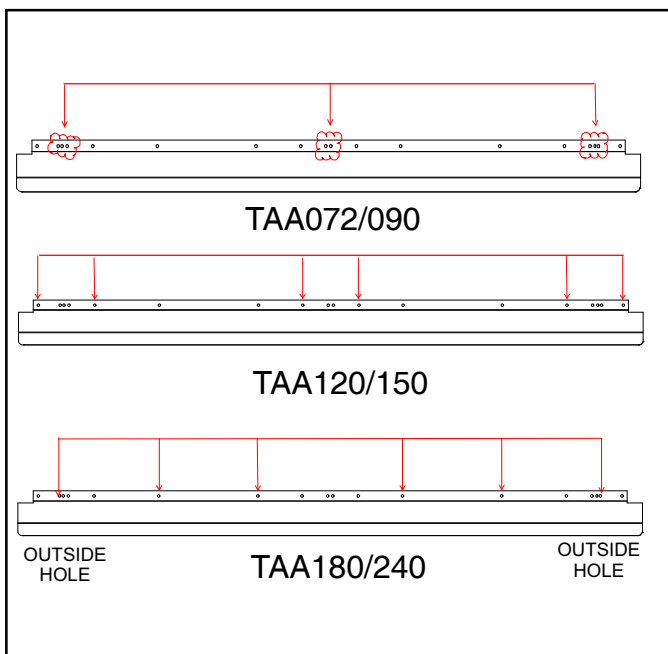

Figure 3. Drip Shield Engaging Holes
- a Refer to figure 3 for drip shield engaging hole locations.